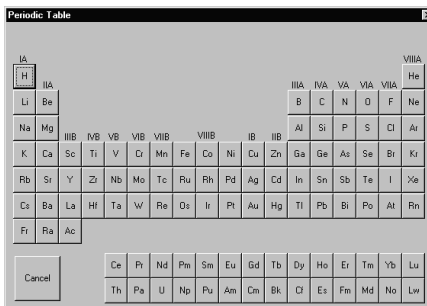

Figure 6-25. Periodic table
27. Select the two remaining atoms. Then click Labels > Group Label again, and click the EI button. A periodic table will appear (Figure 6-25).